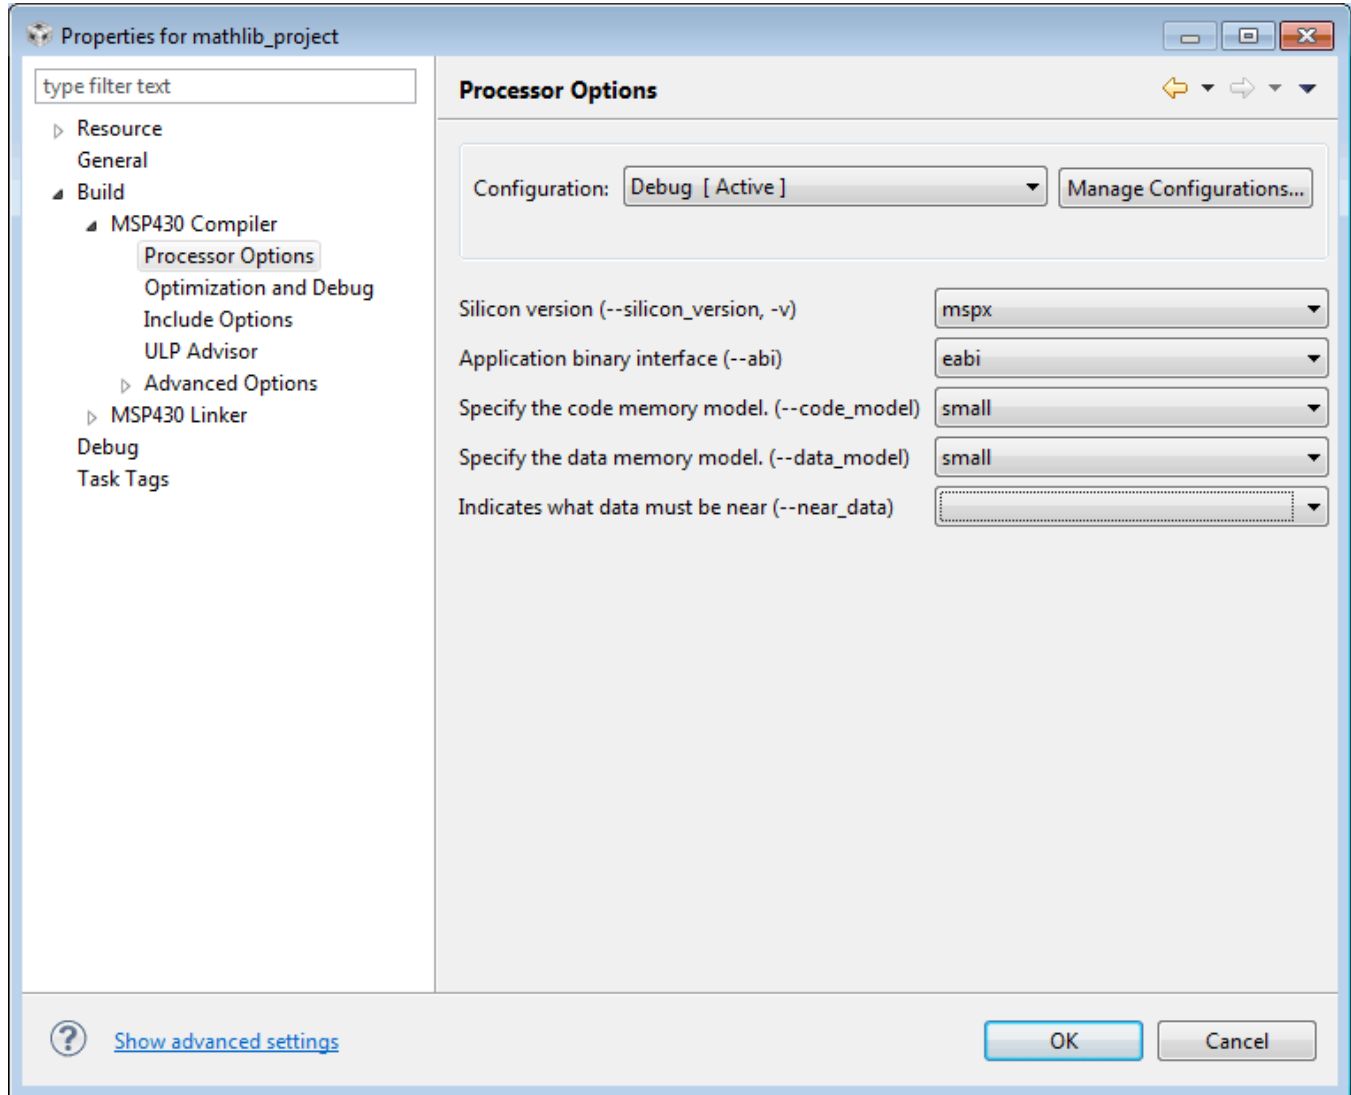

Figure 2. Properties for Project
3. Open the project properties, select *eabi* as the Application binary interface, and select the desired code model and data model (see Figure 2).